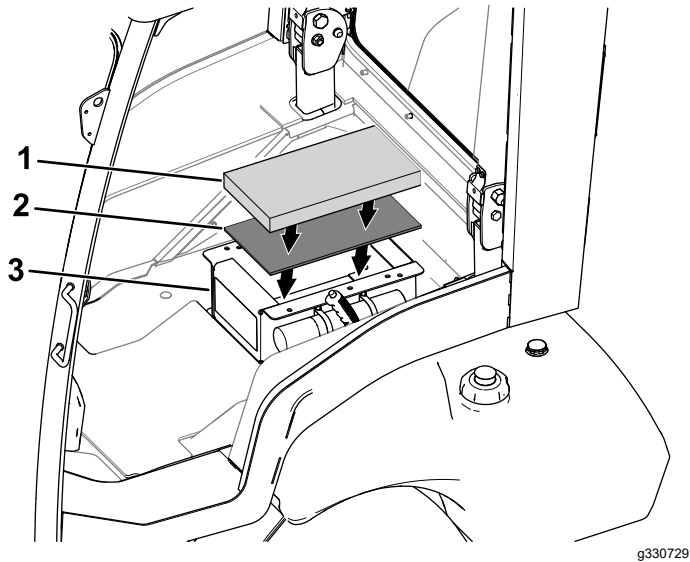

Figure 19
- Install the seat-base pad (**thin**) inside of the seat base (Figure 19).
- Install the seat-base pad (**thick**) inside of the seat base (Figure 19).